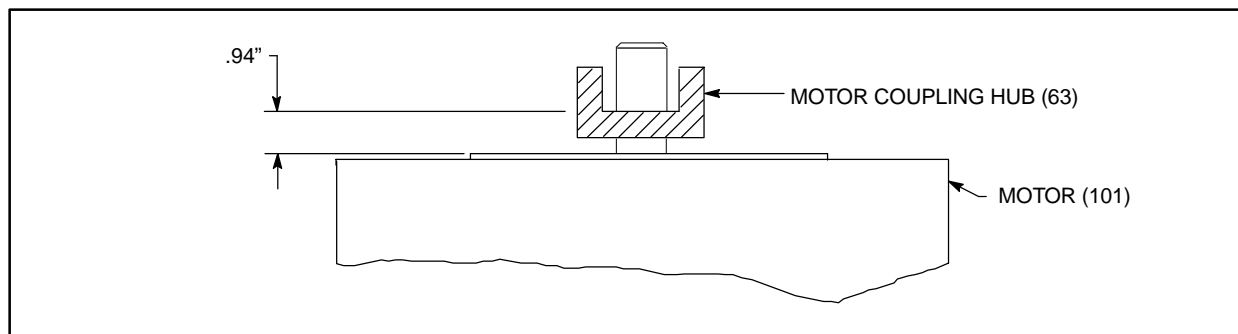

Figure 4 – Motor Coupling Hub Installation
- a. Install gasket (22) around the bearing housing (36).
- b. Assemble mixer coupling hub (64) to the quill shaft (35), until it seats against the upper retaining ring (59). Tighten the mixer hub set screw to 5 ft-lbs. Install the insert (65) on the mixer hub.
- c. With the motor upside down on a workbench, assemble the motor coupling hub (63) to the motor shaft as shown in Figure 4. Align motor coupling hub keyway 180° opposite motor output shaft keyway. Motor coupling hub set screw is tightened against motor output shaft (key is not used in the assembly). Tighten the motor hub set screw to 5 ft-lbs.